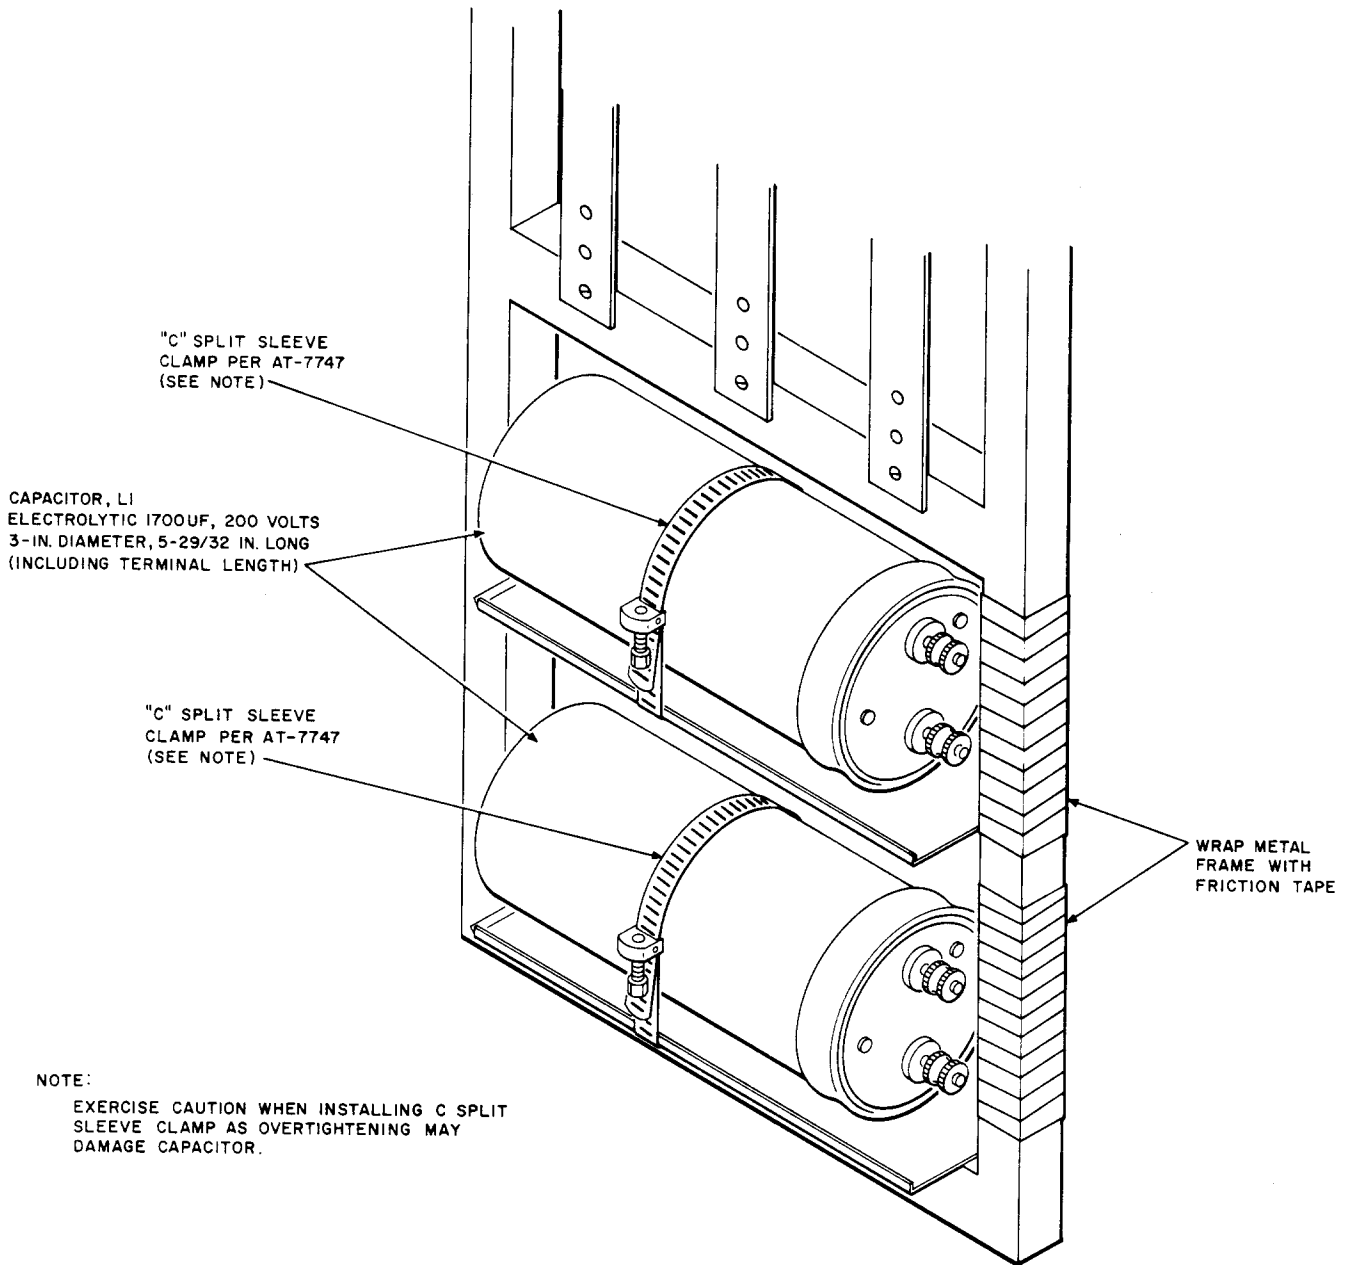

Fig. 5 — Mounting Arrangement for Replacement of 1750-UF Capacitor — Line Concentrator Remote Unit
3.12 The original component was rectangular and mounted flat on a shelf located on the remote unit gate. The KS-19568 replacement capacitor is cylindrical and may be mounted horizontally by using split sleeve clamp AT-7747. See Figure 5 for suggested mounting arrangement and note.
5. Capacitor, electrolytic, KS-19568, L1, 1700-uf, 200 volts is the recommended maintenance replacement for original equipment 1750-uf capacitor. Use clamp AT-7747 when mounting this capacitor. (See Fig. 5.)